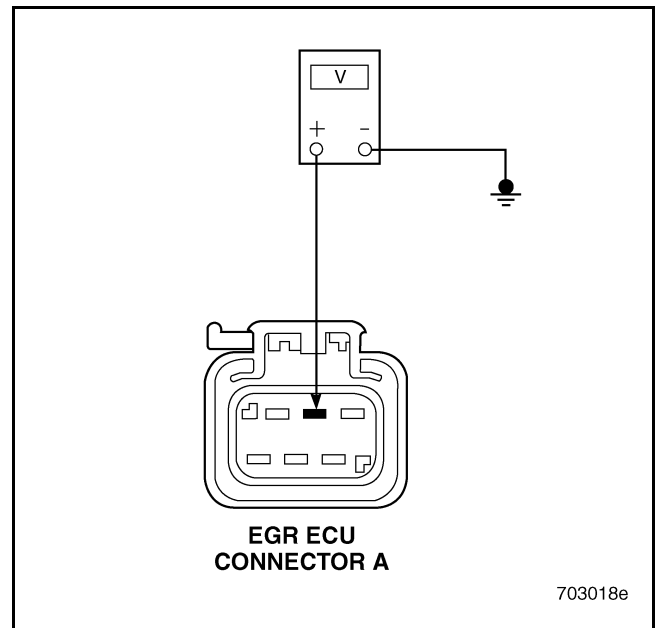

Figure 598
3. Check for battery voltage (+12V) between pin 2 of EGR ECU connector A and a known good ground (see Figure 598).